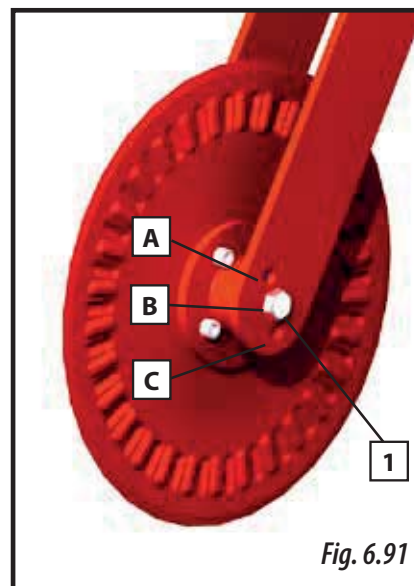

Fig. 6.91
- 1- Remove the nut (1, Fig. 6.91), hold the disc with one hand and use the other one to remove the screw.